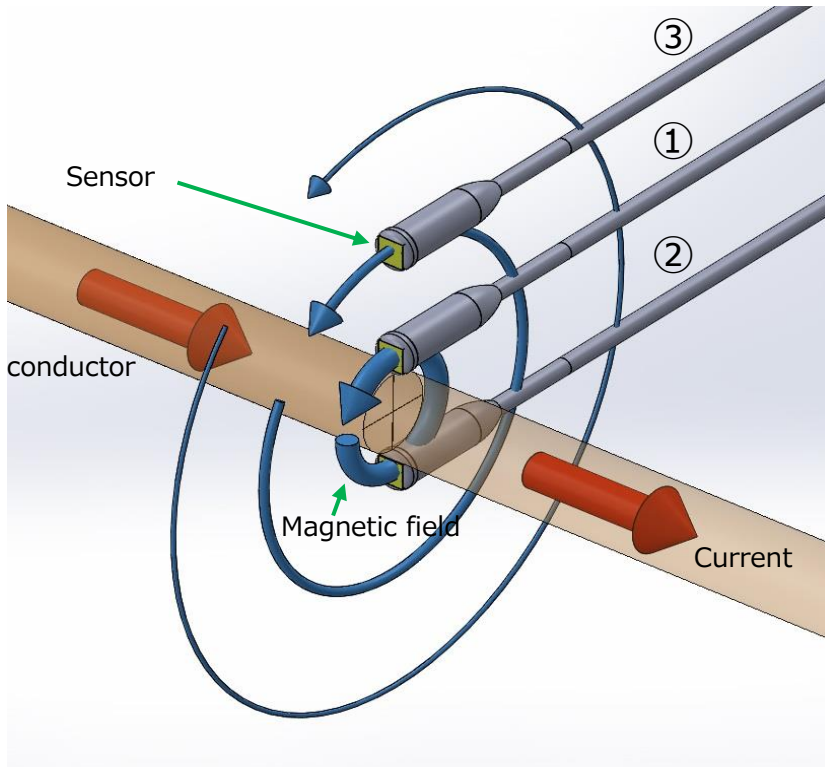

Fig.2 Measurement position
- The maximum sensitivity can be obtained by contacting the conductor with the center of the conductor as shown in Fig.2 ①.